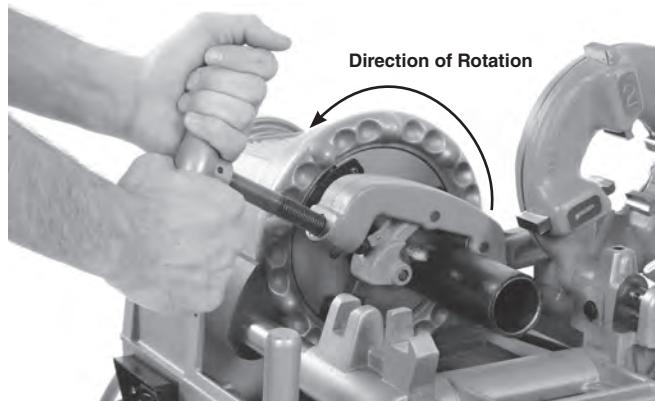

Figure 11 – Cutting with 732 Cutter
3. Move the ON/OFF (I/O) switch to the ON (I) position.
4. With both hands, grasp the pipe cutter feed screw handle (*Figure 11*).